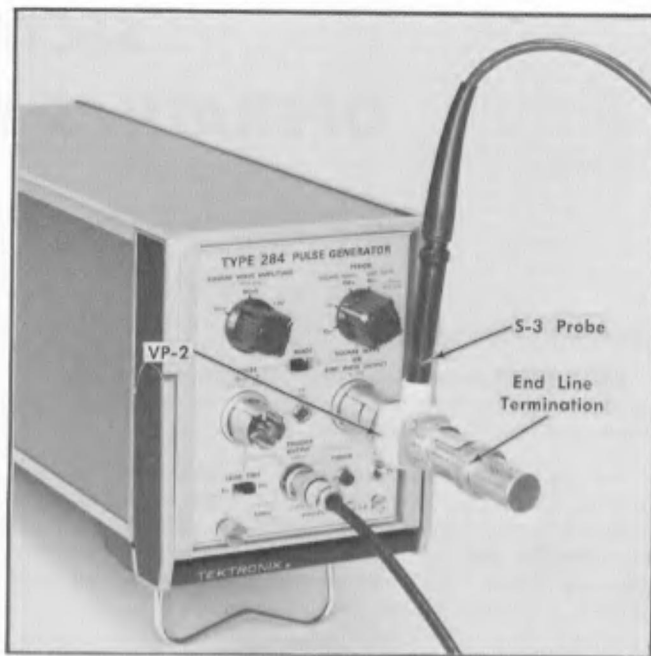

Fig. 2-2. S-3 probe - VP-2 connections.
The First Time Operating procedure utilizes, in addition to the Type S-3, a Type 3S2, Type 3T2, Type 561A, and Type 284. The Type 284 is used as a signal source with Type VP-2 and 50 Ω end-line termination. See Fig. 2-2.
7. Place the probe tip into the Type VP-2 as shown in Fig. 2-2. (Remove the insulating sleeve from the probe tip to fit it into an early model Type VP-2.) Terminate the VP-2 with GR874-W50B 50 Ω end-line termination (Tektronix Part No. 017-0081-00). Connect the Trigger output signal from the Type 284 through a 5 ns coaxial cable with BNC connectors to the External Input 50 Ω connector of the Type 3T2.